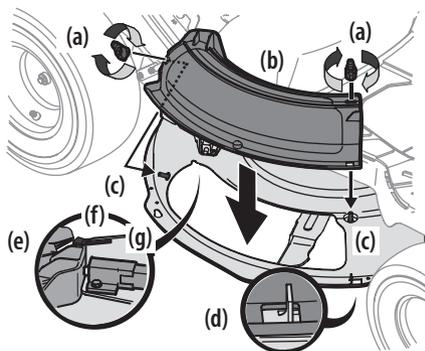

Figure 12
1. Remove the wing knobs (a) installed on the mowing deck and retain for later installation. See Figure 12.
2. Install the mulch plug (b) into the deck discharge opening on the deck. The rear of the mulch plug (b) should be under the tab (f) on the rear deck bracket (g). The studs (c) on the deck surface will fit through the holes on the upper portion of the mulch plug (b). The small tab (d) on the deck lip area will fit through the square cutout on the lower portion of the mulch plug (b). See Figure 12.